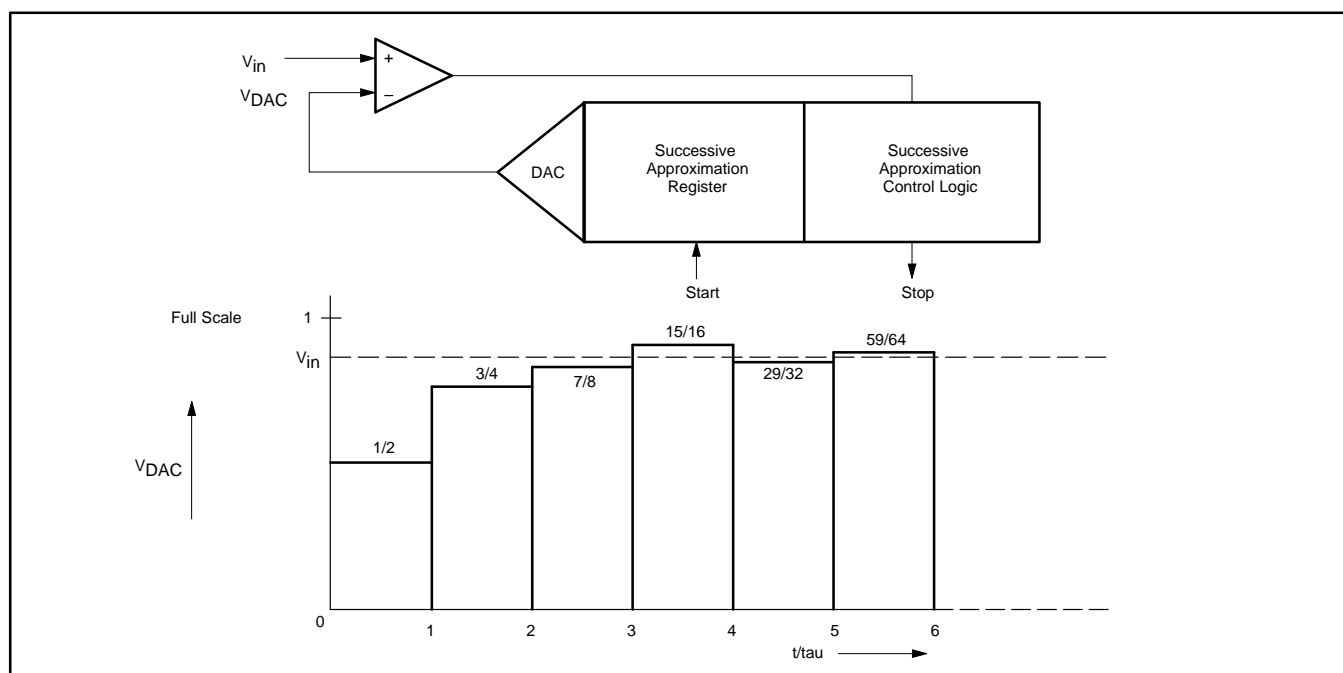

Figure 35. Successive Approximation ADC
**Analog-to-Digital Conversion:** Figure 35 shows the elements of a successive approximation (SA) ADC. The ADC contains a DAC which converts the contents of a successive approximation register to a voltage (VDAC) which is compared to the analog input voltage ( $V_{in}$ ). The output of the comparator is fed to the successive approximation control logic which controls the successive approximation register. A conversion is initiated by setting ADSC in the ADCON register. ADSC can be set by software only or by either hardware or software.